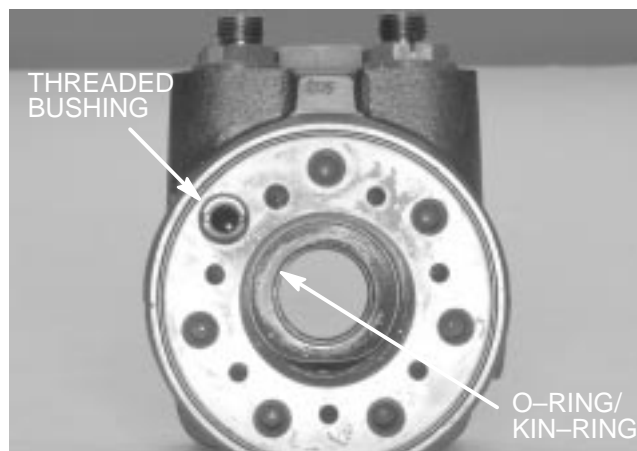

Figure 80
9. Place ball into the largest threaded hole. Secure ball into hole by threading in the bushing. Make sure the top of the bushing lies just below the surface of the housing (Fig. 80).